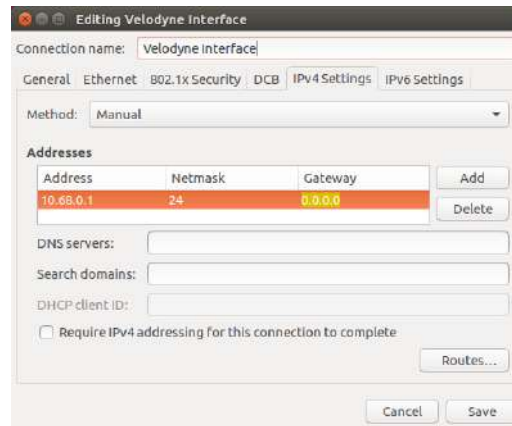

Figure 153: Velodyne network connection settings
4. The settings should look similar as shown in the Figure 153